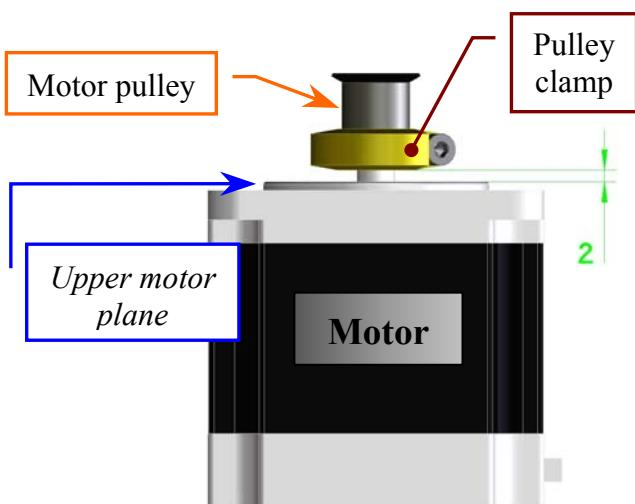

Fig. 113 – Plate Motor (scheme)
8. Insert the pulley clamp completely on the motor pulley (**Fig. 113**) and then insert all two on the motor shaft.
9. Position the motor pulley to **2.00 mm** with respect to upper motor plane (**Fig. 113**), then tighten the pulley clamp screw.